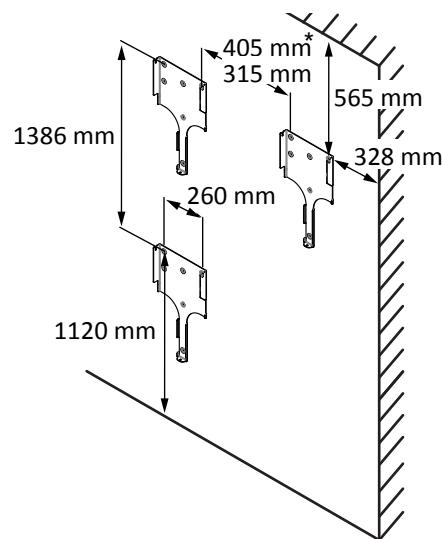

Fig. 8: Position of wall bracket / suspension
- Minimum clearances to be observed during installation: [See figure 8] [► Page 15]